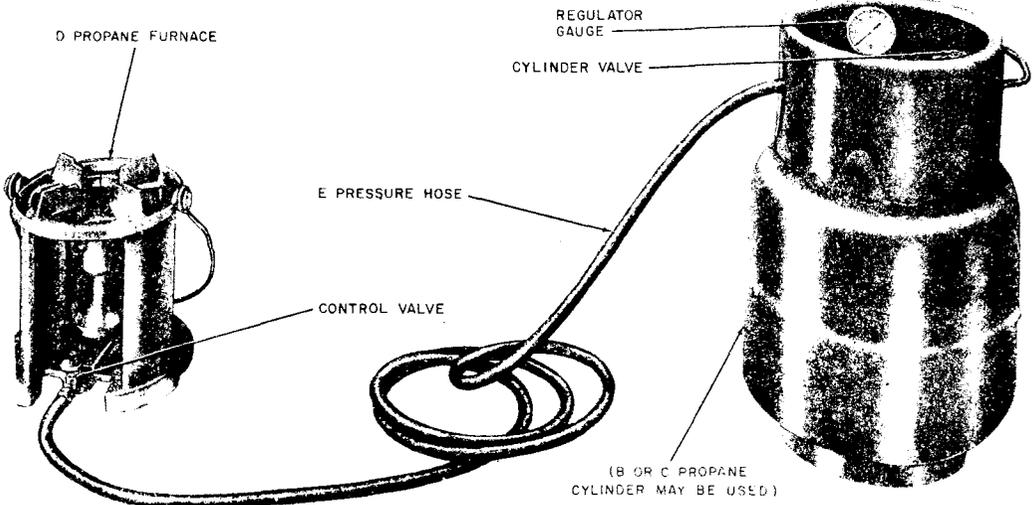

Fig. 4 — Typical Setup
2.04 Fig. 4 illustrates a typical setup of the D Propane Furnace.
- 4.02** To operate the furnace connect the regulator to the propane cylinder and the E Pressure Hose to the regulator and furnace, as shown in Fig. 4, using a B or C Regulator Wrench to tighten the connections.